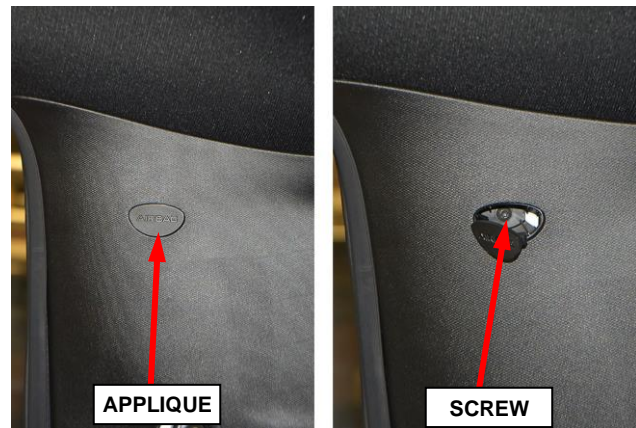

Figure 51 – C-Pillar Upper Trim Panel
13. Using a trim stick or equivalent, release the C-pillar airbag applique then remove the screw that secures the upper trim panel (Figure 51).
49. Install and tighten the screw that secures the C-pillar upper trim panel. Then install the airbag applique (Figure 51).